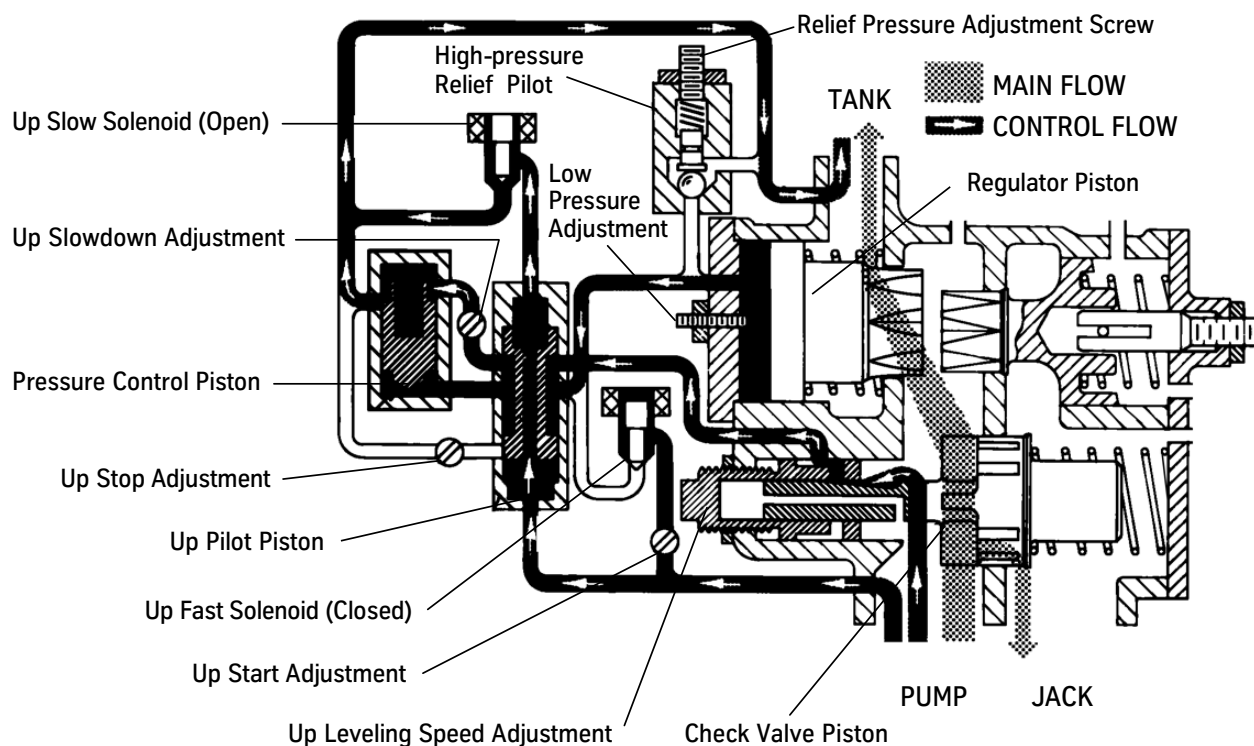

Figure 9 - Up Slowdown and Leveling Speed Diagram
1. From slowdown to leveling speed, the up fast solenoid de-energizes, and the up slow solenoid energizes. See Figure 9.